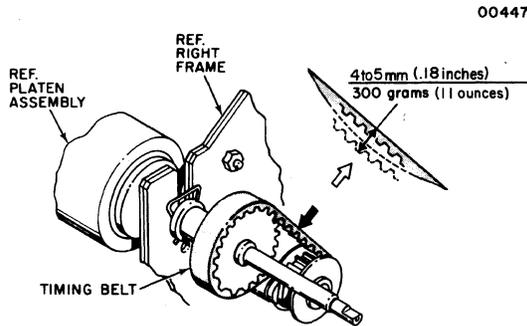

Figure 6-5 Paper Feed Timing Belt Adjustment
6.3.1 PAPER FEED TIMING BELT ADJUSTMENT—At a point equidistant from the line feed pulley and paper feed pulley, adjust tension of belt by moving tension roller underneath belt up or down for a deflection of 4 to 5 mm (9/32 in.) when a 300 gram (11 oz.) load is applied. Refer to Figure 6-5.